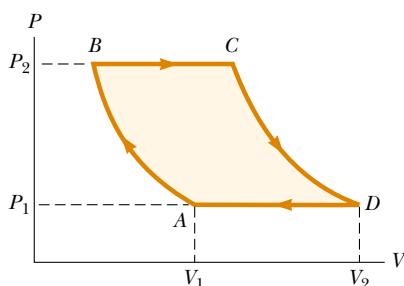

Figure P20.39
39. An ideal gas is carried through a thermodynamic cycle consisting of two isobaric and two isothermal processes, as shown in Figure P20.39. Show that the net work done in the entire cycle is given by the equation